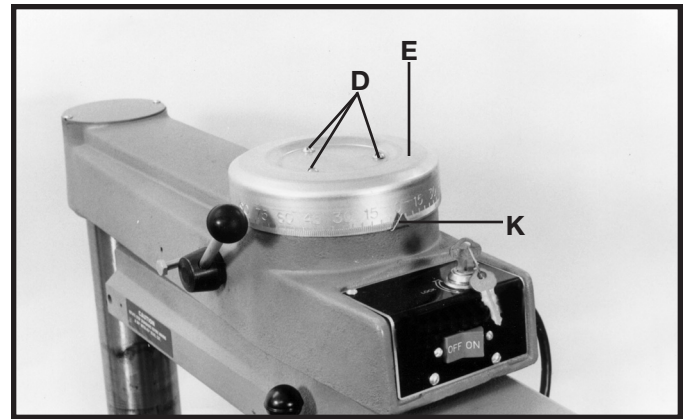
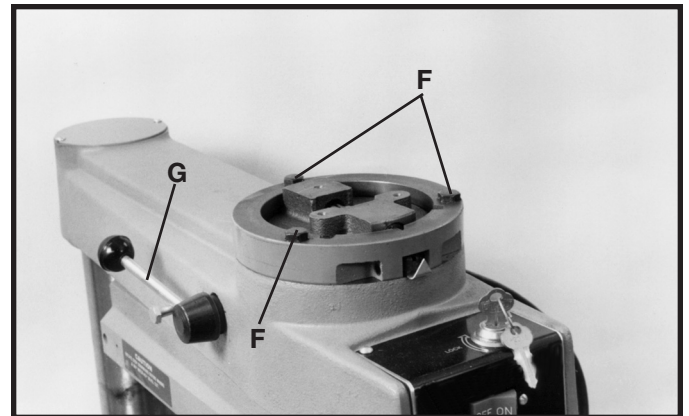

Fig. 51
Fig. 52
5. Remove three screws (D) Fig. 51, and remove miter scale (E).
6. Loosen three screws (F) Fig. 52, and loosen track arm clamp handle (G).
8. When the cuttinghead travels parallel to the square, tighten three screws (F) Fig. 52. Replace miter scale (E) Fig. 51, and replace and tighten three screws (D). Make certain the zero graduation mark on the scale (E) lines up with the pointer (K).